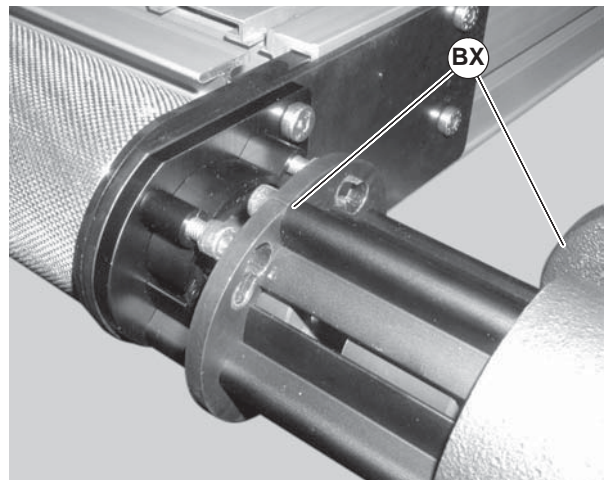

Figure 56
- c. Rotate and remove the gear motor and guard assembly (Figure 56, item BX).